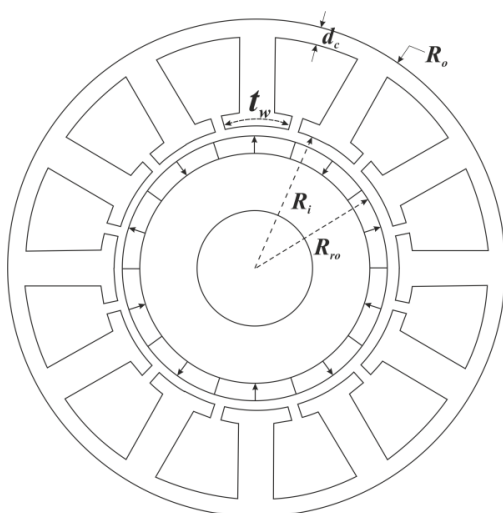

Figure 1
1. The major dimensions and parameters of a radial field, 12-slot, 10-pole surface mounted permanent magnet machine shown in Figure 1 are listed in TABLE 1. By specifying appropriate approximations, answer the following questions.
- a. Assuming the permanent magnets are full arc (180°) and $\mu_r = 1$, calculate the magnetic loading B and list possible ways to increase the magnetic loading B . (6)
- b. If the allowable peak no-load lamination flux density is 2 T, choose a suitable stator tooth width (t_w) and comment on the result. (4)
- c. For the same peak no-load lamination flux density stated in Q1.b, choose a suitable stator yoke thickness (d_c) and comment on the result. (4)
- d. Calculate the electric loading Q if the total Ampere-Turns for the 3-phase windings are $NI = 1000A$. List the limiting factors for increase in electrical loading Q . (4)
- e. Calculate the electromagnetic torque using the previously obtained electrical loading Q and magnetic loading B . (2)